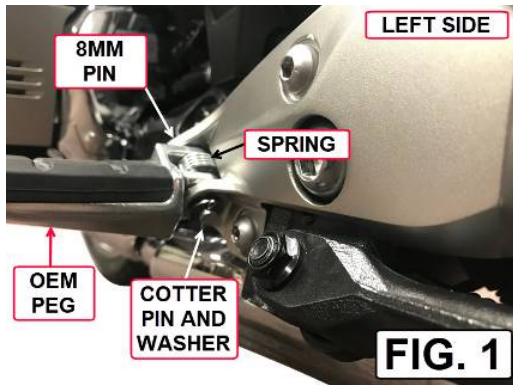

FIG. 1
1. STARTING ON THE LEFT SIDE USE A NEEDLE NOSE PLIER TO REMOVE THE COTTER PIN SHOWN IN FIG. 1.